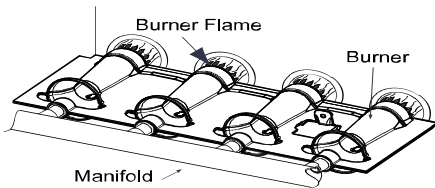

Fig. 65 – Burner Flame
- i. When correct input is obtained, replace cap that conceals gas valve regulator adjustment screws. Main burner flame should be clear blue, almost transparent (Fig. 65).